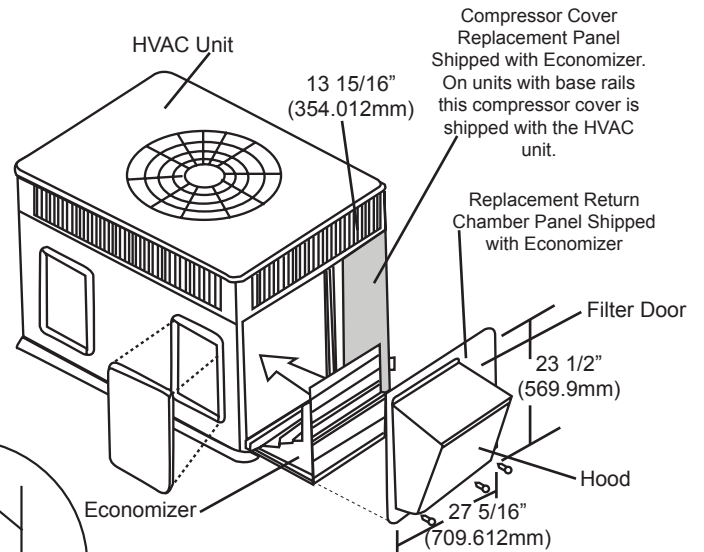

Fig. 6 - Economizer Installation
9. Install the compressor access panel provided with the economizer. Screw to HVAC unit per Fig. 6 and 7. NOTE: Units with base rails will have compressor panel shipped with unit.
10. Install the economizer assembly into the return air chamber, making sure the economizer completely covers the bottom return air opening. See Fig. 6. Remove the red shipping tape holding the relief dampers closed.
11. Install the replacement return chamber panel over the economizer assembly and underneath the drip flange on the HVAC unit. Line up the bottom center hole on the panel with the hole in the bottom of the economizer and the mating hole in the base of the HVAC unit. Insert screw, which will hold all parts in place. Insert screws on bottom, left, and right of panel and on panel right side as well. See Fig. 6.